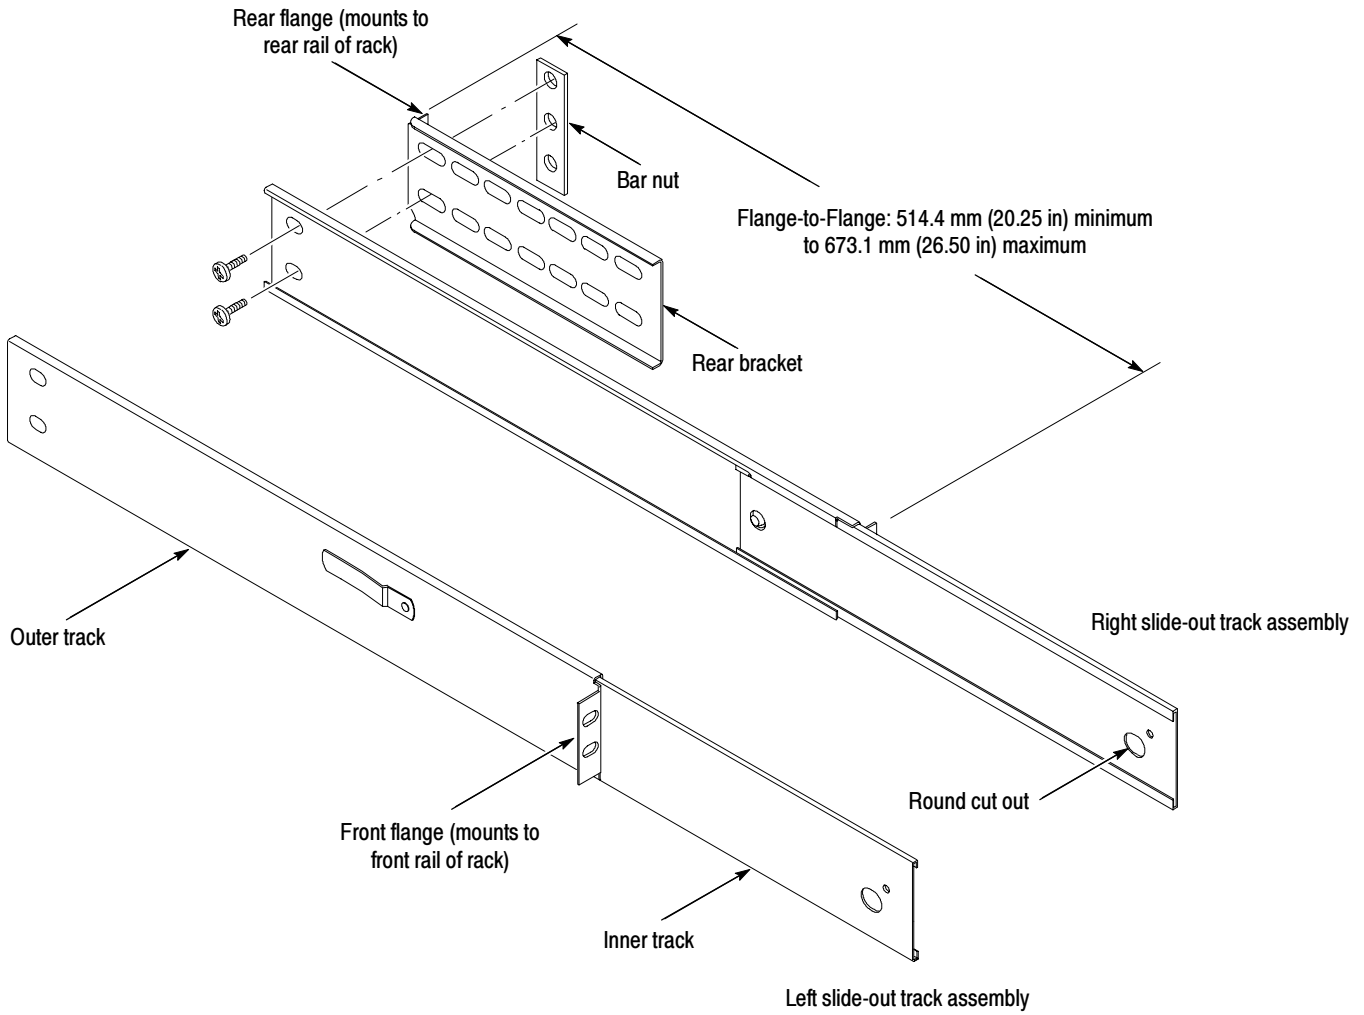

Figure 9: Assembly of slide-out track assemblies
- b. Align the rear bracket to the right slide-out track as shown in Figure 9. Note that the rear bracket has multiple pairs of mount-through holes. When aligning the bracket and track, be sure to select a pair of holes that mount the rear bracket so that the flange-to-flange distance matches the front-rail to rear rail distance measured in step a.